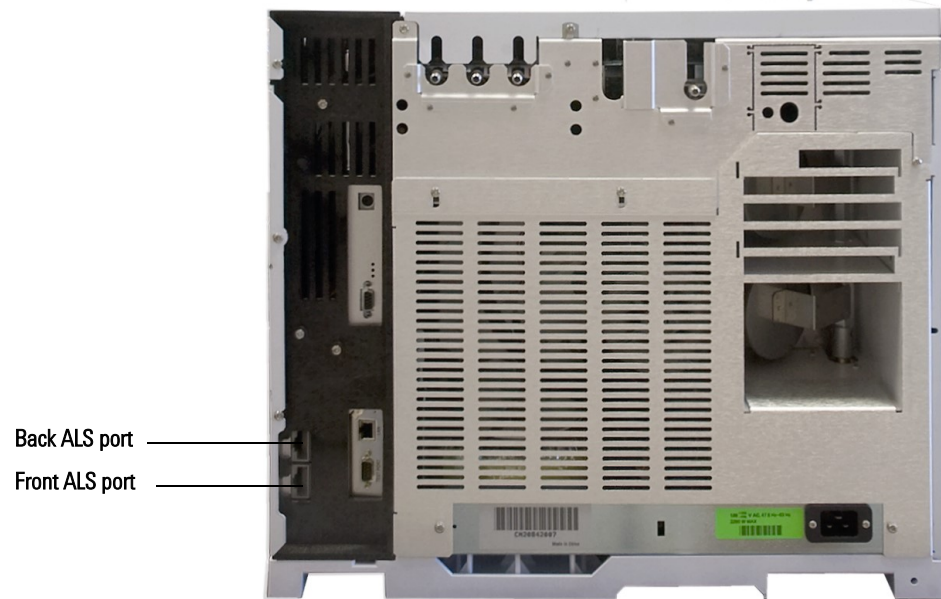
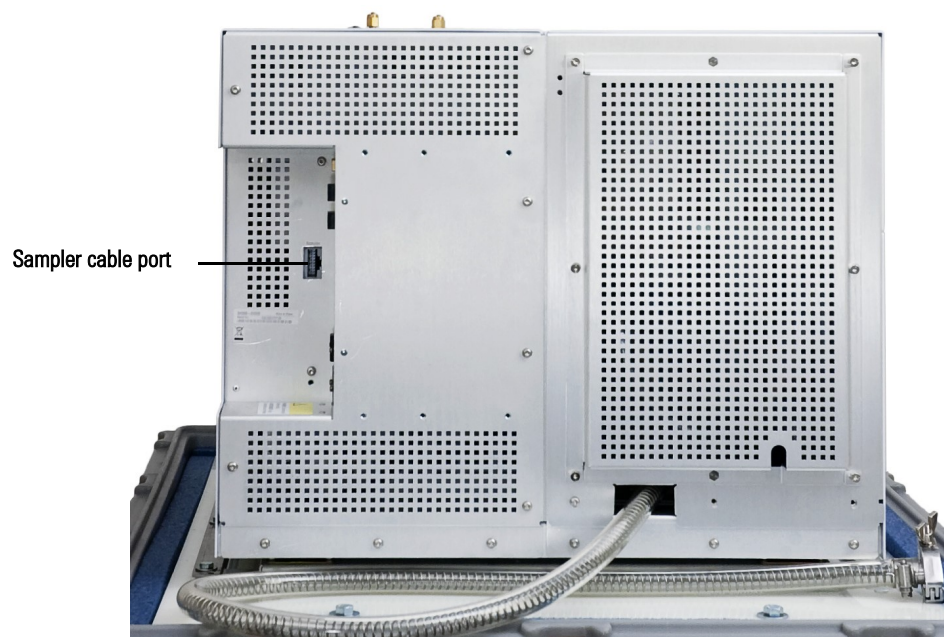

Figure 16 Front and back ALS ports on the back of a 7820A GC
Figure 17 Sampler cable port on the back of a 5975T LTM-GC/MSD
- 2 Connect the ALS communication cable to the front or back ALS port (7820A GC, Figure 16) or the sampler port (5975T LTM-GC/MSD, Figure 17).